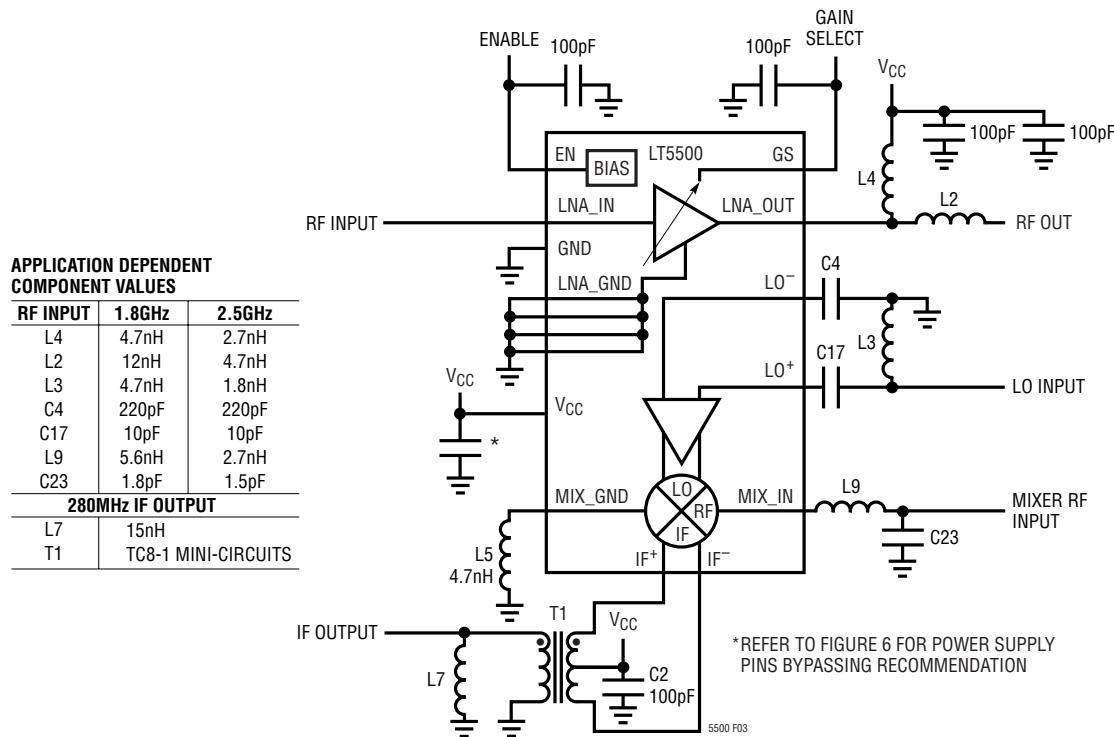
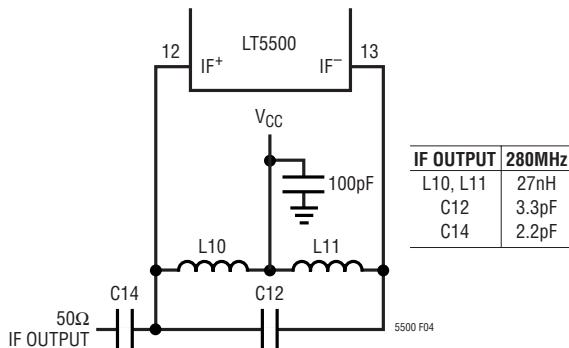

Figure 3. Simplified Test Schematic for 1.8GHz and 2.5GHz Applications
Figure 4. Alternative Mixer IF Output Matching
Note 3: Component values listed in Figure 3 for 1.8GHz evaluation board were used to guarantee 1.8GHz performance.
requires a shunt inductor connected to the power supply to provide the bias current. The component configuration for matching and example component values are listed in Figure 3. If it is desirable to reduce the gain further and simultaneously broaden the LNA bandwidth, an additional shunt resistor to the power supply can be added to the output to reduce the output quality factor (Q).
The Mixer consists of a single-ended input differential pair followed by a double-balanced mixer cell. The input matching configuration for the Mixer is shown in Figure 3. The Mixer uses a 4.7nH external inductance to act as a high frequency current source at the MIX_GND pin. Example component values for matching the mixer input are tabulated in Figure 3.
An IF transformer can be used to create a single-ended output. The additional discrete components necessary to achieve a 50Ω match are tabulated in Figure 3. Alternatively, the discrete solution shown in Figure 4 can be used to perform differential to single-ended conversion. For best LO and RF signal suppression at the IF output, a transformer should be used. If it is desirable to reduce the gain of the mixer, a resistor between the IF outputs can be used.
The evaluation board employs primarily 0402 surface mount components, particularly near the signal paths. All surface mount inductors must have a high self-resonance frequency. The component values necessary for 1.8GHz and 2.5GHz applications are tabulated in Figure 3.